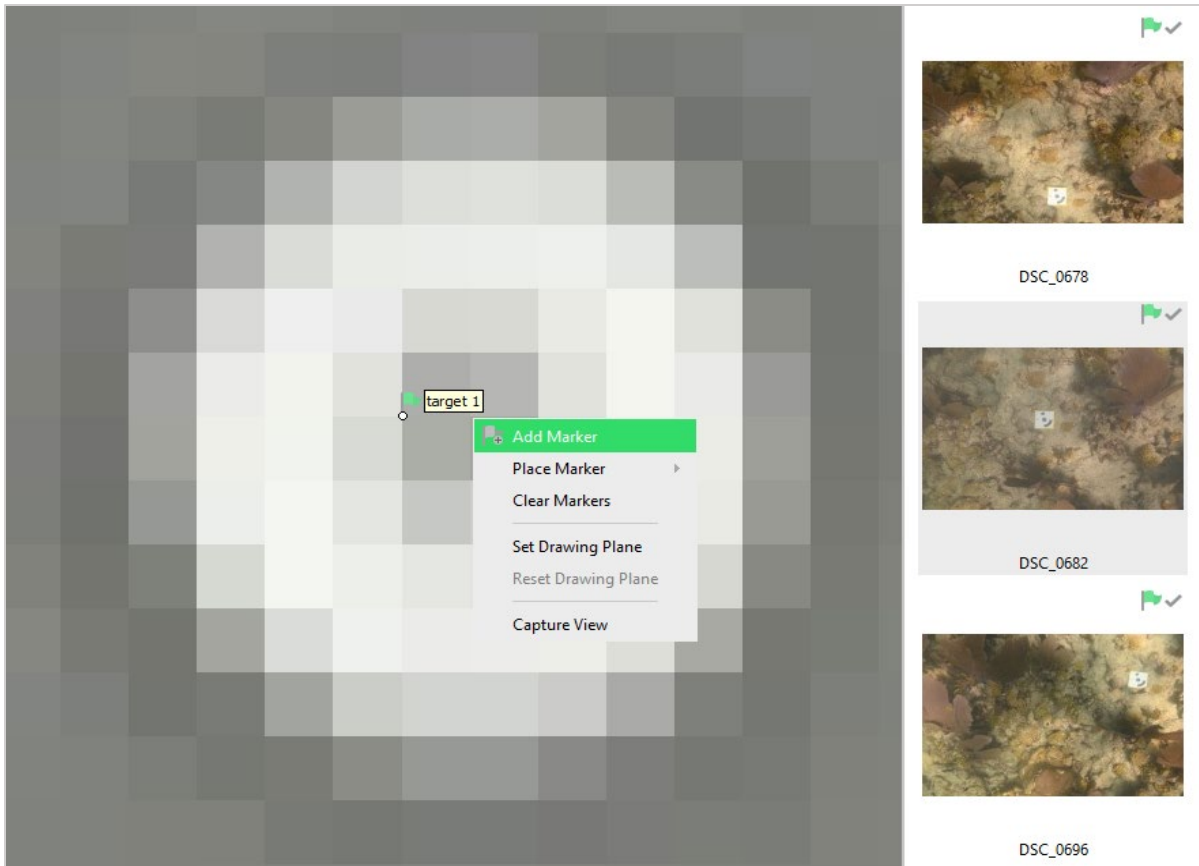

Figure 15. Selection of an image and addition of a new marker.
4. In the Photos pane, double-click on an image with the perimeter marker or scale bar in the center of the frame (Figure 15). Fully zoom in using the scroll wheel until the pixels are visible and the zoom-in limit is reached.
5. Add a new marker by right-clicking next to the existing marker flag and selecting `Add Marker` from the context menu (Figure 15).